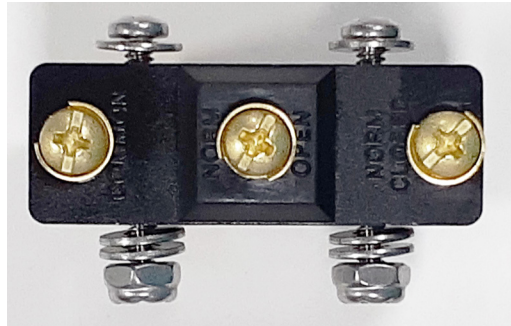

Figure 30 Switch Cover Retaining Screws with Spacing Washers
1. Pre-install the two screws, spacing washers, and nuts which will be used to secure the switch cover (Figure 30). These are provided in the kit hardware bag.